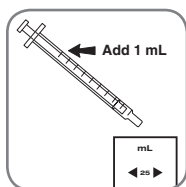

Figure 3
4. Add 1 mL of the activator solution using the 1 mL syringe supplied. **See Fig 3.** Stir briefly with the tip of the cuvette.